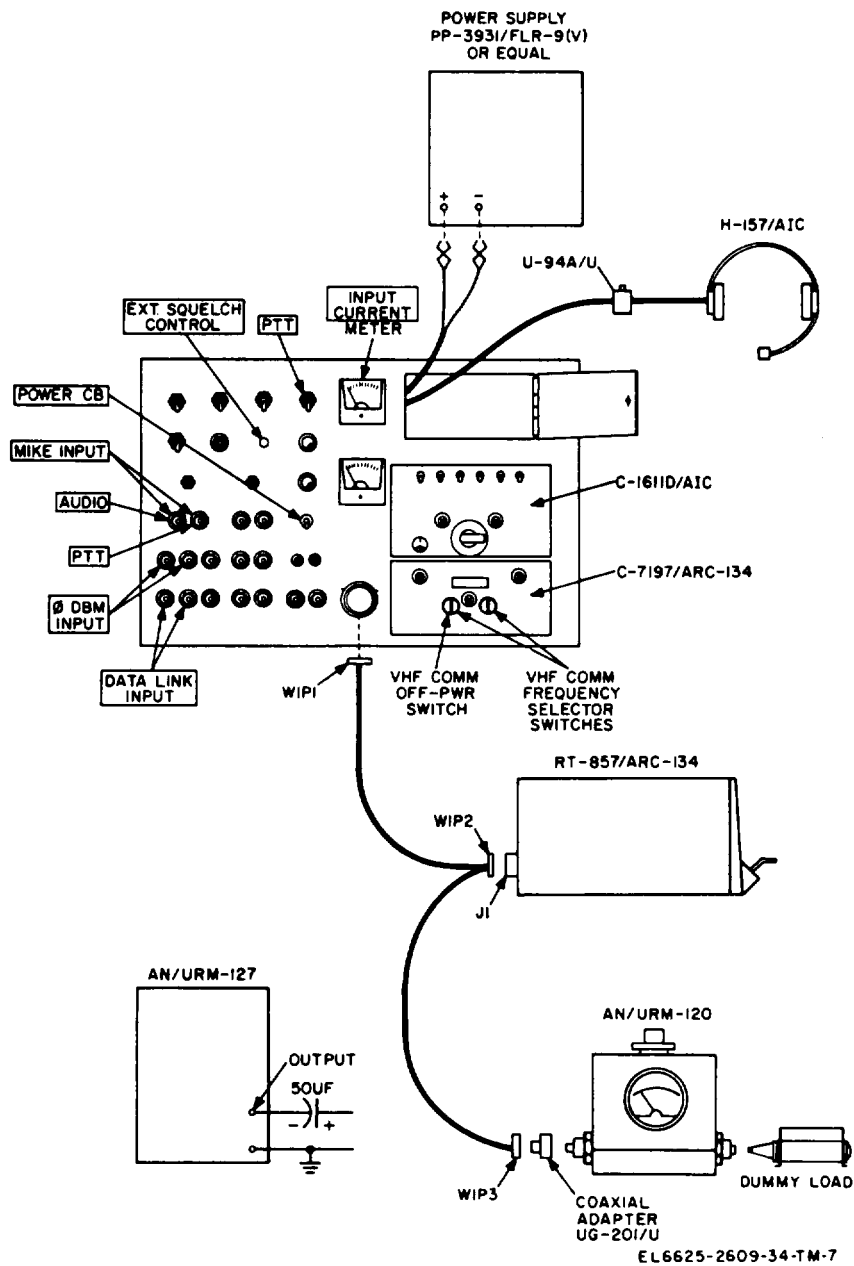

Figure 3-6. Transmitter circuit test setup.
equipment as shown in figure 3-6. The AN/URM-127 is not used in this test. Place the C-1611D/AIC transmit-interphone selector switch in position 3, the RECEIVERS 3 switch ON, all other
(6) Dummy Load, Electrical DA-75/U.
b. Test Connections and Conditions. Connect the equipment as shown in figure 3-6. The AN/URM-127 is not used for this test. Place the C-1611D/AIC transmit-interphone selector switch in position PVT, the RECEIVERS 3 switch ON, all other RECEIVERS switches off, and position the VOL control as required. These settings must be maintained during the test.
(7) Dummy Load, Electrical DA-75/U.
b. *Test Connections and Conditions.* Connect the equipment as shown in figure 3-6. Connect AN/URM-127 through 50-uf capacitor to MIKE INPUT jacks on test panel (capacitor to AUDIO jack). Place the C-161/DAIC transmit-interphone selector switch in position 3, the RECEIVERS 3 switch ON, all other RECEIVERS switches off, and position the VOL control as required. These settings must be maintained during the test.
b. *Test Connection and Conditions.* Connect the equipment as shown in figure 3-6. Connect the AN/URM-127 to test panel 0 DBM INPUT jacks through the 50-uf capacitor (capacitor to HI jack). Place the C-1611D/AIC transmit-interphone selector switch in position 3, the RECEIVERS 3 switch ON, all other RECEIVERS switches off, and position the VOL control as required. These settings must be maintained during the test.
- (1) Radio Set AN/ARC-134.
- (2) Power supply,
- (3) Wattmeter, Radio Frequency AN/URM-120.
- (4) Generator, Signal AN/URM-127.
- (5) Adapter.
- (6) Capacitor, 60 uf, 25 vdc.
b. Test Connections and Condition. Connect the equipment as shown in figure 3-6. Connect AN/URM-127 through the 50- μ f capacitor to test panel DATA LINK INPUT jacks (capacitor to HI jack). Place the C-1611D/AIC transmit-interphone selector switch in position 3, the RECEIVERS 3 switch ON, all other RECEIVERS switches off, and position the VOL control as required. These settings must be maintained during the test.